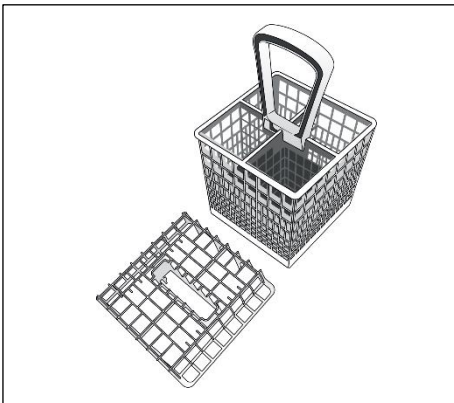

Figure 5
- **AQUAPROTECT - SUPPLY TUBE WITH GUARD (fig. 5):**
- Place the cutlery in the plastic cutlery holder with the handles pointing upwards and place the cutlery holder on the lower basket (fig. 5) making sure that the cutlery does not get in the way of the rotating arms.
The top of cutlery basket can be removed, for enable various loading options (fig.5).